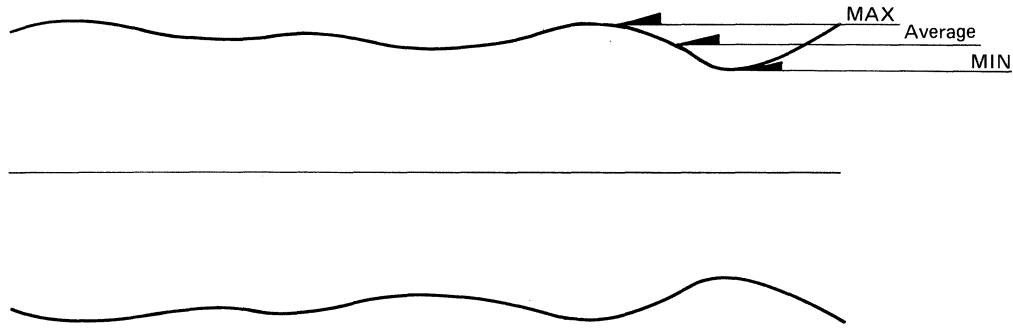

Fig. 4.1 Modulation
5. Check that the average amplitude level is **220 mV or more**. (See Fig. 4.1.)
(See Fig. 4.1.)